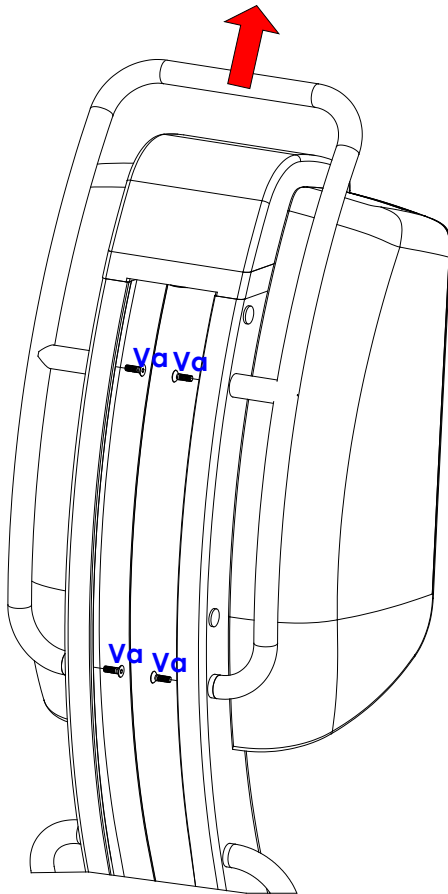
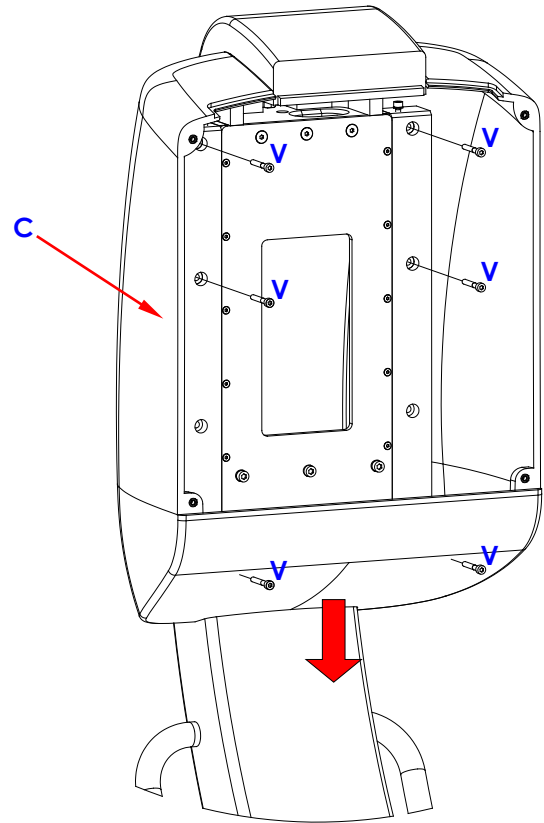

Fig. 2a
Fig. 2b
- Unscrew the 4 screws (Va). (In Fig.2a is shown the 21x21 FPD version).
- Remove the handle (M).
- Unscrew the 6 screws (V). (In Fig.2b is shown the 21x21 FPD version).
- Extract the cover (C)